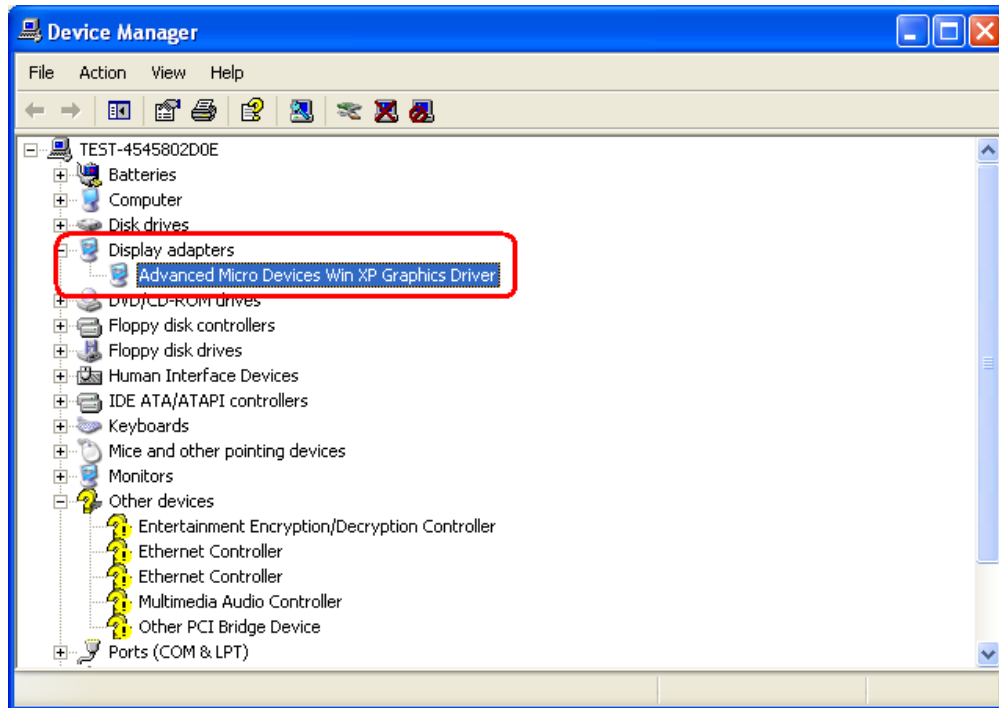

Figure 7-15: Device Manager Update
Step 16: The Device Manager refreshes and the Graphics Driver can be seen in the Display adapters option. See **Figure 7-15**.